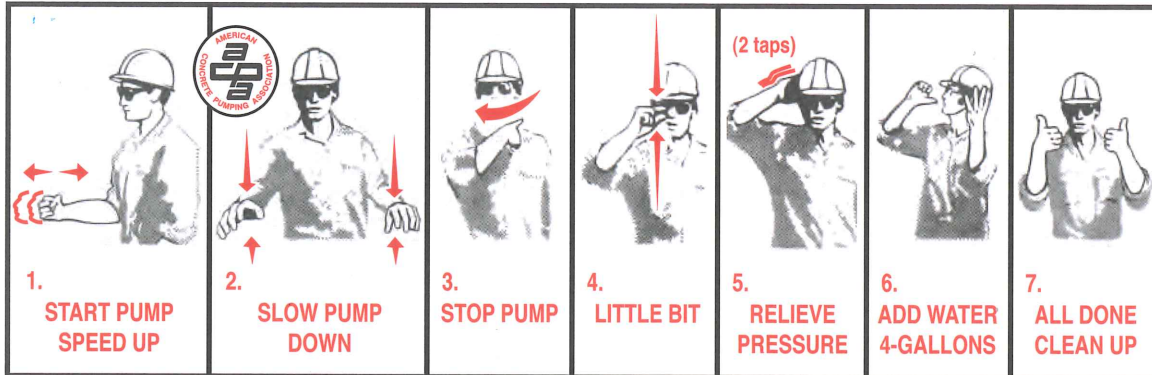

Figure 54
15.12 **⚠️ WARNING** Never stand on, sit on, or straddle a pipeline while it's in use, or whenever it is pressurized (Figure 54). Pipeline wears out with each stroke of the pump. If the pipe bursts, you want to be to the side of it, not on top of it.